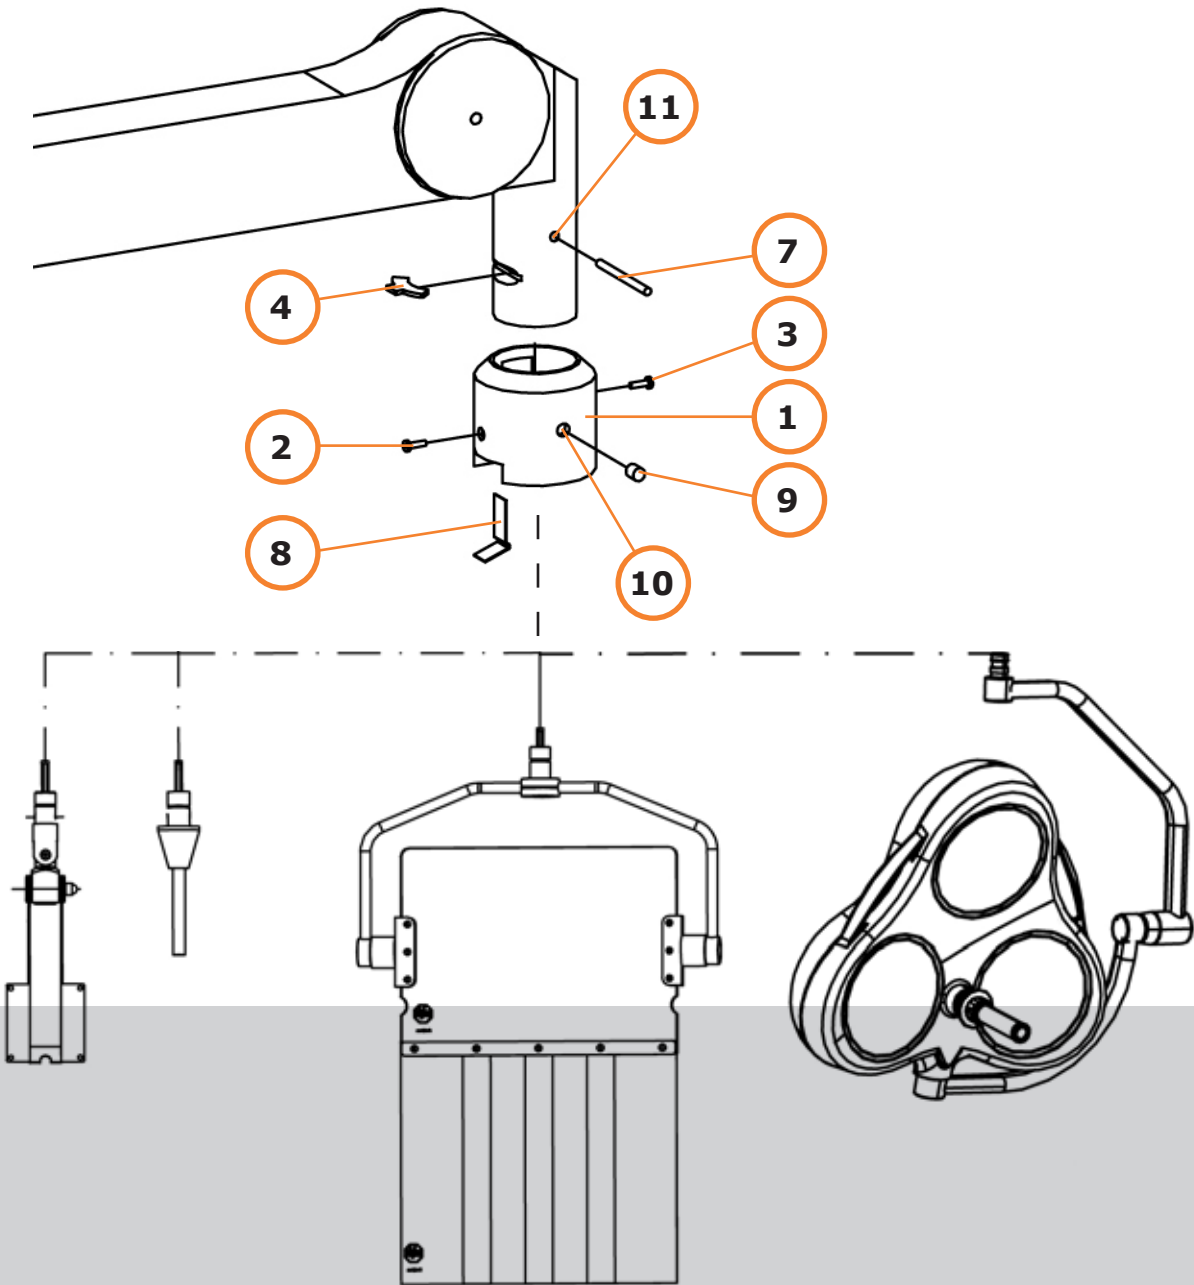

Fig. 32
10.5.1 Remove the plastic plugs (9/Fig. 32) from both sides of the safety collar (1/Fig. 32).
10.5.2 Remove the screws (2,3/Fig. 32) from the safety collar and store them in a safe place.
10.5.3 *For end devices without internal electrical cabling (ex. shields, monitor holders, injector holders):* Push the safety collar upwards (1/Fig. 32), until you will be able to see the straight pin sitting in the drill hole (11/Fig. 32). Remove the straight pin (7/Fig. 32) by pushing it out from one side to the other.
10.5.4 Push up the safety collar (1/Fig. 32) until it rests under the plastic cover and hold it there.
10.5.5 Carefully, pull out the safety spring (8/Fig. 32) from the safety collar (1/Fig. 32).
In the following step, the last thing (retaining clip (4/Fig. 32) inside the spring arm) securing the attached device, is being removed. If you fail to hold the attached device firmly, it will fall down causing damage or injury.
10.5.6 Hold the attached device with a firm grip. Remove the retaining clip (4/Fig. 32) from its slot and disconnect the device. To facilitate the removal, slightly rotate the device if needed.
Chart/Fig. 32